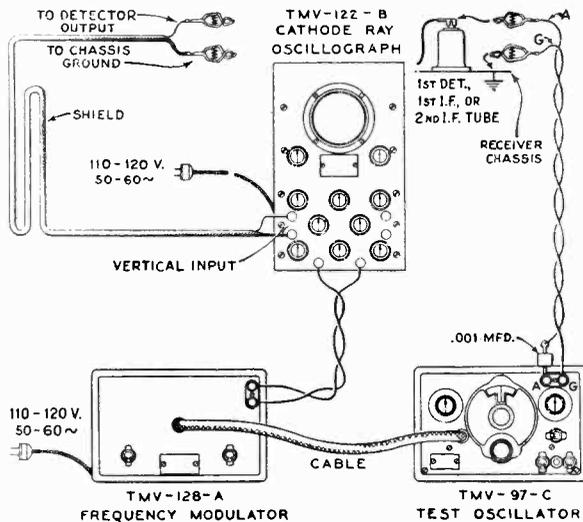
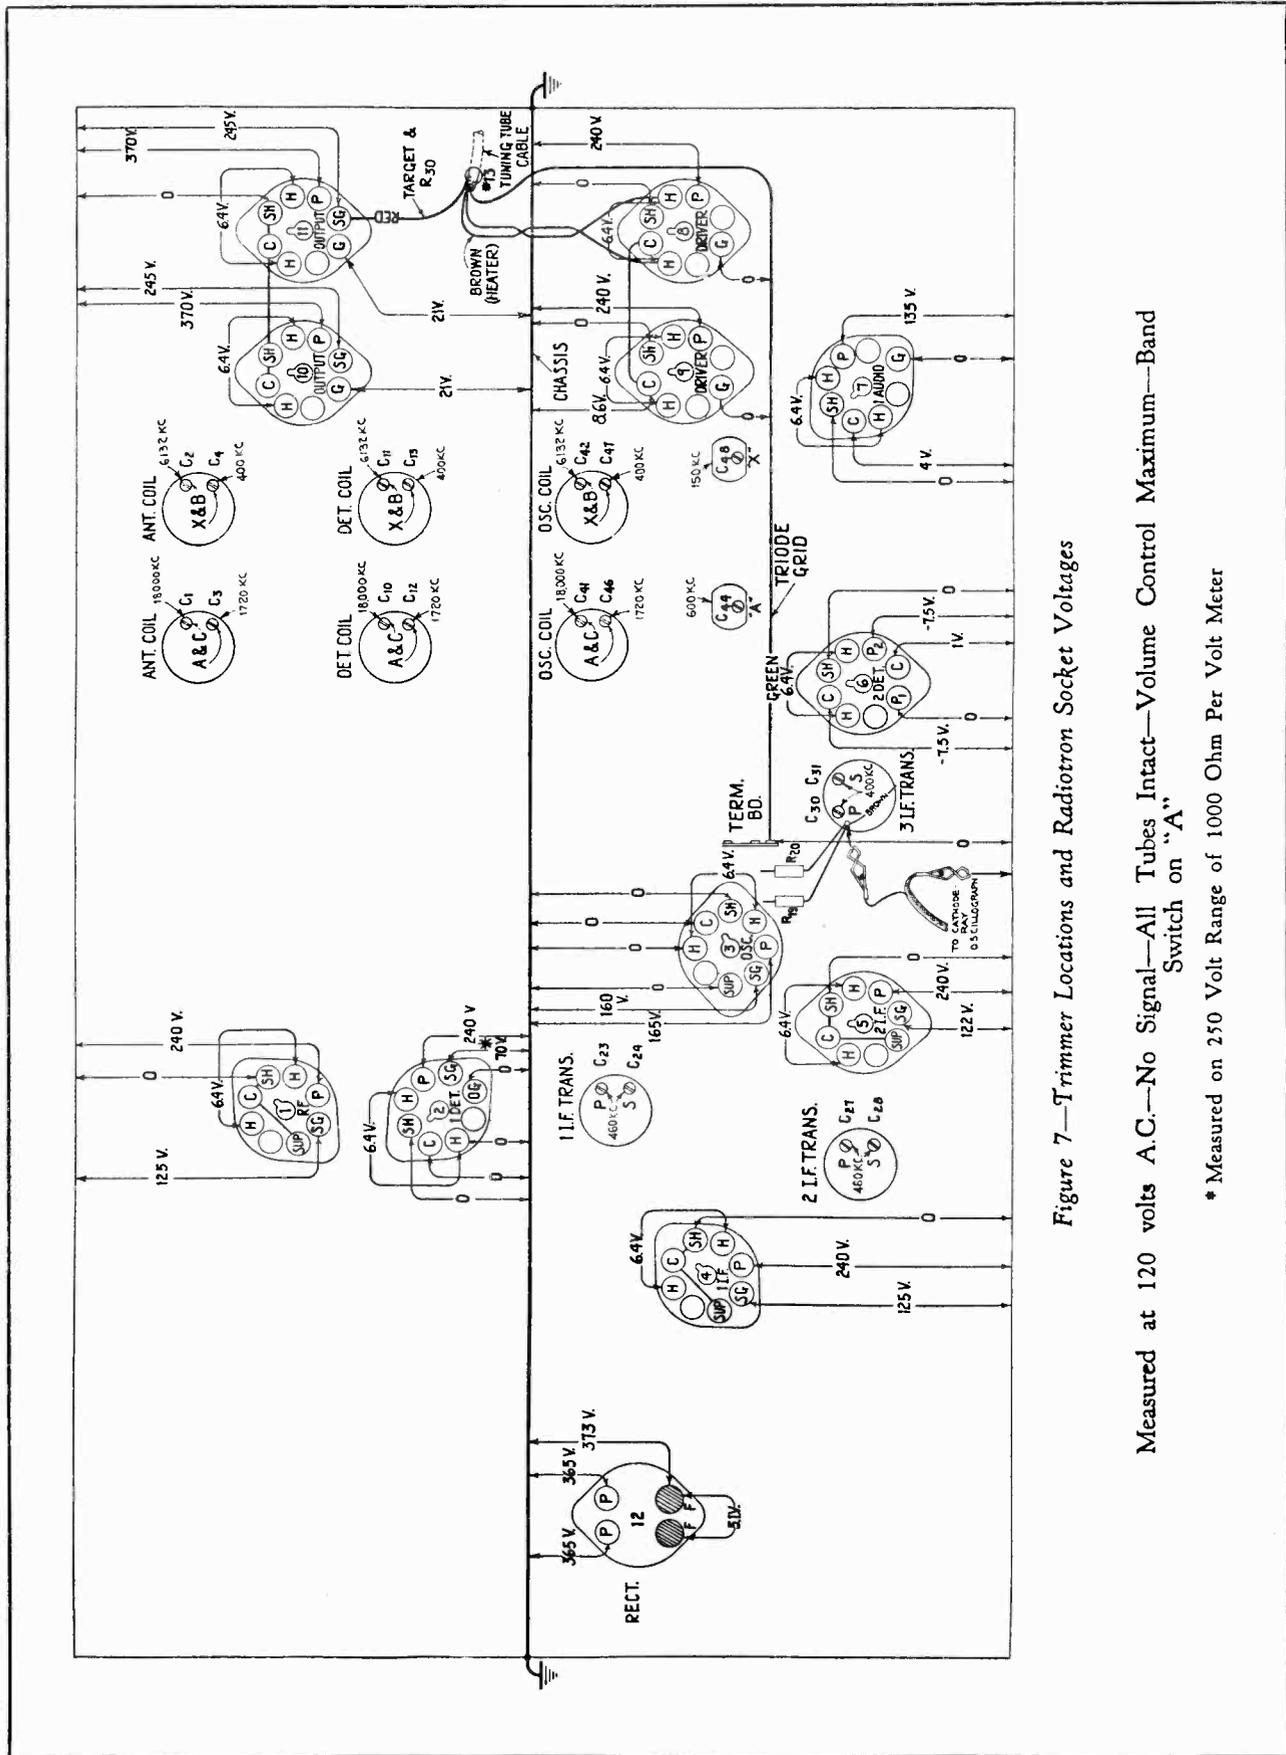

Figure 6—Alignment Apparatus Connections
Figure 7—Trimmer Locations and Radiotron Socket Voltages
Six trimmers are associated with the three i-f transformers. Their locations on the chassis are shown by Figure 7. Each must be aligned to a basic frequency of 460 kc. The last i-f transformer should be adjusted first, the one preceding it second and the operation carried through successive stages until the first transformer has been aligned. For such a process, it is necessary to feed the output of the Full Range Oscillator to the stages in their order of alignment, adjusting the trimmers of each and observing the effect at the second detector output on the Cathode-Ray Oscilloscope. The most convenient point for connection of the Oscilloscope is at the detector diode load circuit, with the vertical "Hi" terminal attached to the juncture of R-17, R-18 and R-19, and the "Gnd" to the chassis. The "Ext. Sync." terminals of the Oscilloscope should be connected to the Frequency Modulator as illustrated in Figure 6. A .001 mfd. capacitor installed in series with the Oscillator "Ant." output lead will prevent the voltage constants of the stage being aligned from becoming upset. Proceed further as follows:—
- (c) The Frequency Modulator should then be placed in operation and interconnected with the Full Range Oscillator by means of the shielded patch cord provided. Figure 6 shows the proper arrangement. Set the Frequency Modulator sweep range switch to its "Lo" position and turn the Oscillator modulation switch to "Off". Change the timing (Sync.) control of the Oscilloscope to "Ext." and place the range switch to its No. 2 position. Then shift the tuning of the Oscillator so as to increase its frequency, until two distinct and similar waves appear on the Oscilloscope screen and become coincident at their highest points. These curves will be found to occur at an Oscillator setting of approximately 540 kc. They will be identical in shape but appearing in reversed positions. Adjust the frequency control of the Oscilloscope in order to cause the waves to conform with these requirements and to make them remain motionless on the screen. This will require a setting of approximately $\frac{1}{2}$ clockwise rotation of the frequency control. The trimmers C-30 and C-31 should then be re-adjusted so that the two curves move together and become exactly coincident throughout their lengths, maintaining the maximum amplitude at which this condition can be brought about.
ing manufacture, hence no alignment will be necessary in this range. Locations of the various antenna, detector and oscillator trimmers are shown on Figure 7. The test Oscillator should be removed from connection with the i-f system and its output attached to the antenna-ground terminals of the receiver. No changes are to be made in the attachment of the Oscillograph at the second detector. During the adjustments, the Oscillator output should be regulated as often as is necessary to keep the oscillographic image as low as is practically observable. Such procedure will obviate apparent broadness of tuning which would result from a.v.c. action on a stronger signal. The sequence of alignment should be Band A, Band X, Band B and Band C. Proceed with the adjustments as follows:—
- (a) With the receiver range switch on its Band A position, tune the station selector until the dial pointer is at a reading of 1720 kc. Adjust the Oscillator to 1720 kc. (modulation "On" and Frequency Modulator disconnected) and increase its output to produce a registration on the Oscillograph. Carefully align the oscillator, detector and antenna trimmers, C-46, C-12 and C-3 respectively, so that each brings about maximum amplitude of output as shown by the wave on the Oscillograph. It will be necessary to have the timing control of the Oscillograph on "Int." for this operation. Then shift the timing control to "Ext." and place the Frequency Modulator into operation with its connections to the Oscillator and Oscillograph as shown on Figure 6. Retune the test Oscillator (increase frequency) until the forward and reverse waves show on the Oscillograph and become coincident at their highest points. Adjust the trimmers C-46, C-12 and C-3 again, setting each to the point which produces the best coincidence and maximum amplitude of the images.
The voltage values indicated from the Radiotron socket contacts to ground on Figure 7 will serve to assist in locating causes for faulty operation when existent. Each value as specified should hold within $\pm 20\%$ when the receiver is normally operative at the rated supply voltage. Variations in excess of this limit will usually be indicative of trouble in the basic circuits. The voltages given on the diagram are actual operating values and do not allow for inaccuracies which may be caused by the loading effect of a voltmeter's internal resistance. This resistance should be duly considered for all readings. The amount of circuit resistance shunting the meter during measurement will determine the accuracy to be obtained, the error increasing as the meter resistance is comparable to or less than the circuit resistance. For the majority of readings, a meter having an internal resistance of 1000 ohms per volt will be satisfactory when the range used for each check is chosen as high as possible consistent with good readability.